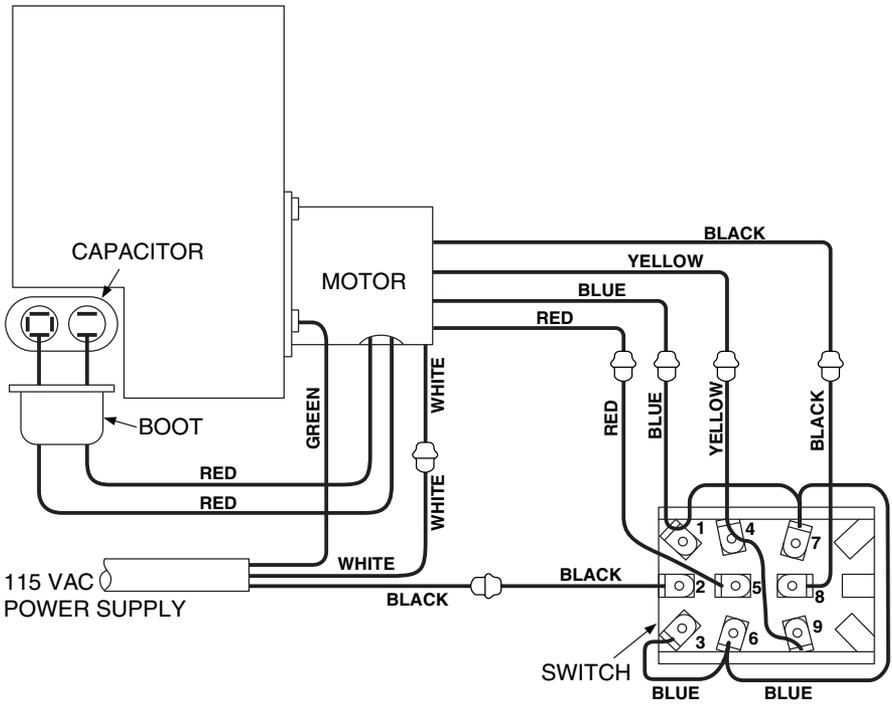
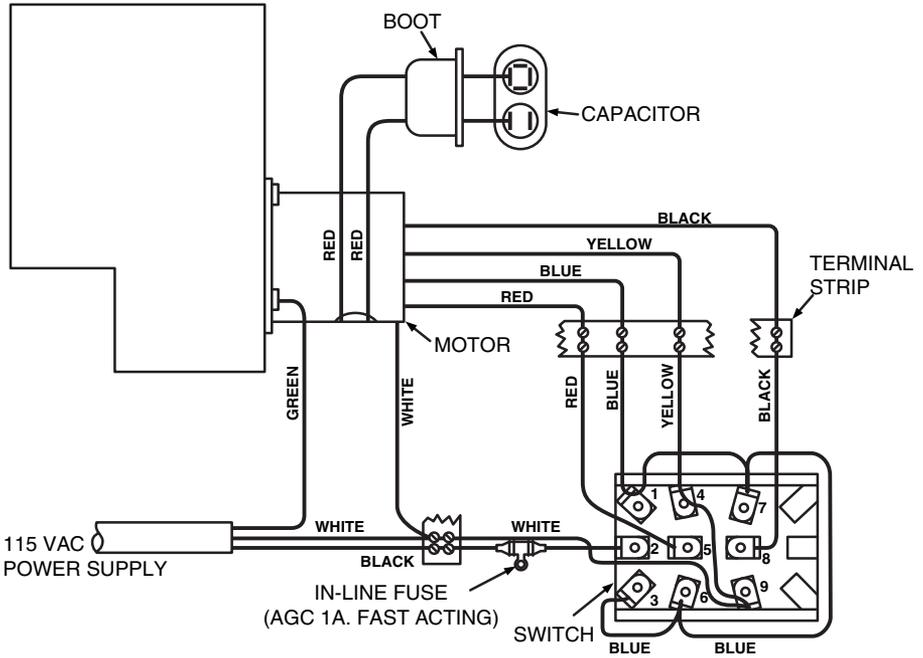
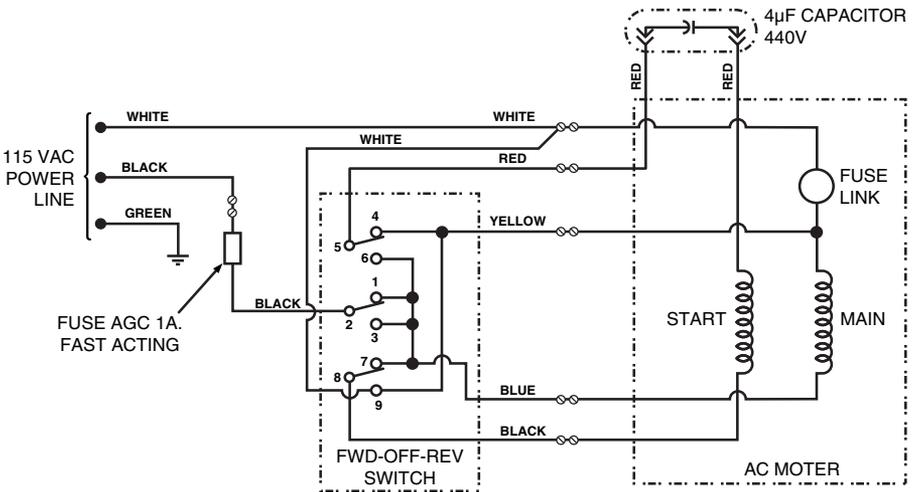

Figure 8: Pictorial Wiring Diagram, VCM-200
Figure 10: Pictorial Wiring Diagram, VCM-200HT (Hi-Temp)
Figure 11: Schematic Wiring Diagram, VCM-200HT (Hi-Temp)
*See Wiring Diagrams, Figure 8, Figure 11, and Figure 19.
4. Disconnect the black and white power line leads and the green ground wire (See Figure 8 or 9 for VCM-200) (see Figure 10 or 11 for VCM-200HT).
4. Disconnect the five switch leads. Four of these are the red, blue, yellow and black motor leads. The fifth switch lead is the black line from the power cord. (See Figure 8)